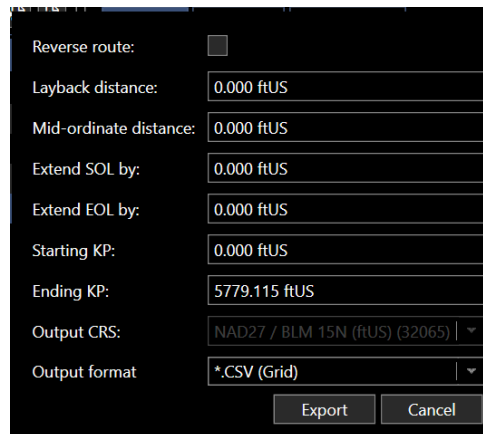

FIGURE 9-17 EXPORT CONFIGURATION DIALOG
3. Click the  Export Button, this will open an export configuration dialog (see Figure 9-17).